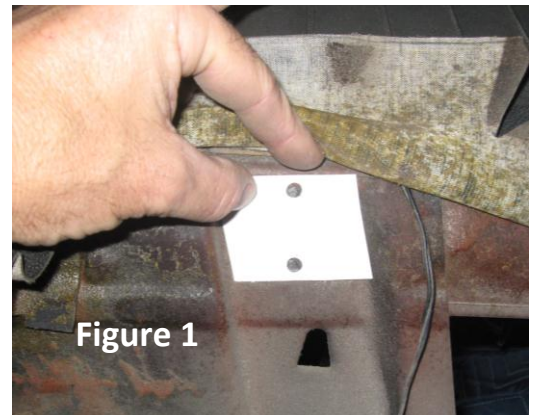

Figure 1
6. From inside the car, drill two 1/4" holes in the trunk divider using the template supplied. The top of the template should align with the top of the sheet metal (figure 1).